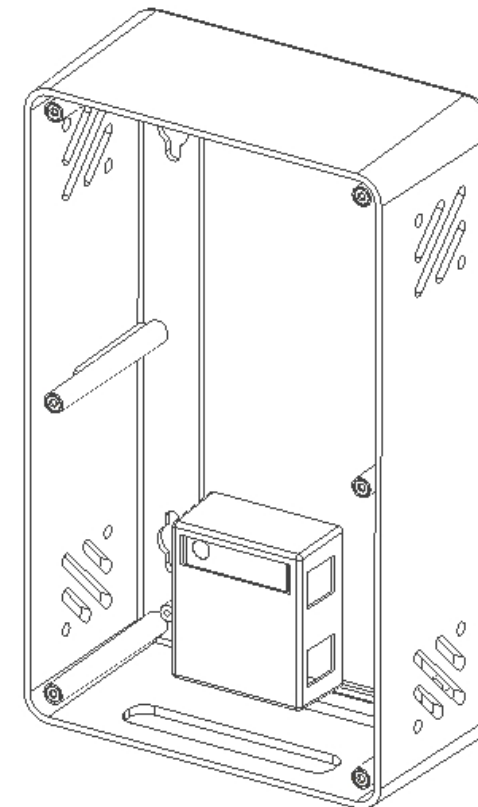

Figure 2 – Surface Mount Box Install To Enclosure
Step 3- Secure the surface mount box to the back wall of the enclosure or to the wall (Figure 2).